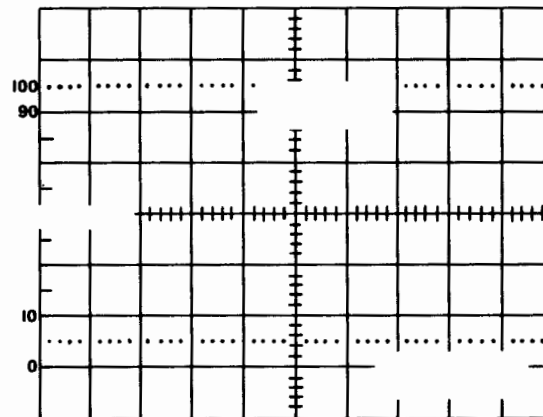

Figure 32. Time difference between repetitive pulses.
1. Position the two traces approximately as shown in Figure 32.
2. Using the DELAY TIME POSITION control, move the reference point to the first pulse (Figure 32, Point A).
4. Using the  $\Delta$  TIME control and observing movement of the B Sweep waveform, move the time-measurement point to the second pulse (Figure 32, Point B).